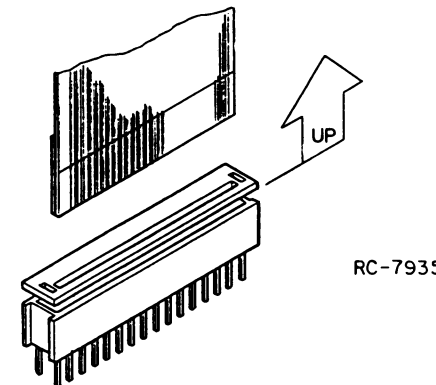

Figure 2 - Connector Unlocked
3. Lift the connector lock, see figure 2, and carefully remove the flex ribbon cable from connector J702. Disconnect internal speaker leads from J552/J503.
6. On the CONTROL PANEL, lift the connector lock, see figure 2, and carefully remove the flex cable from connector J801.